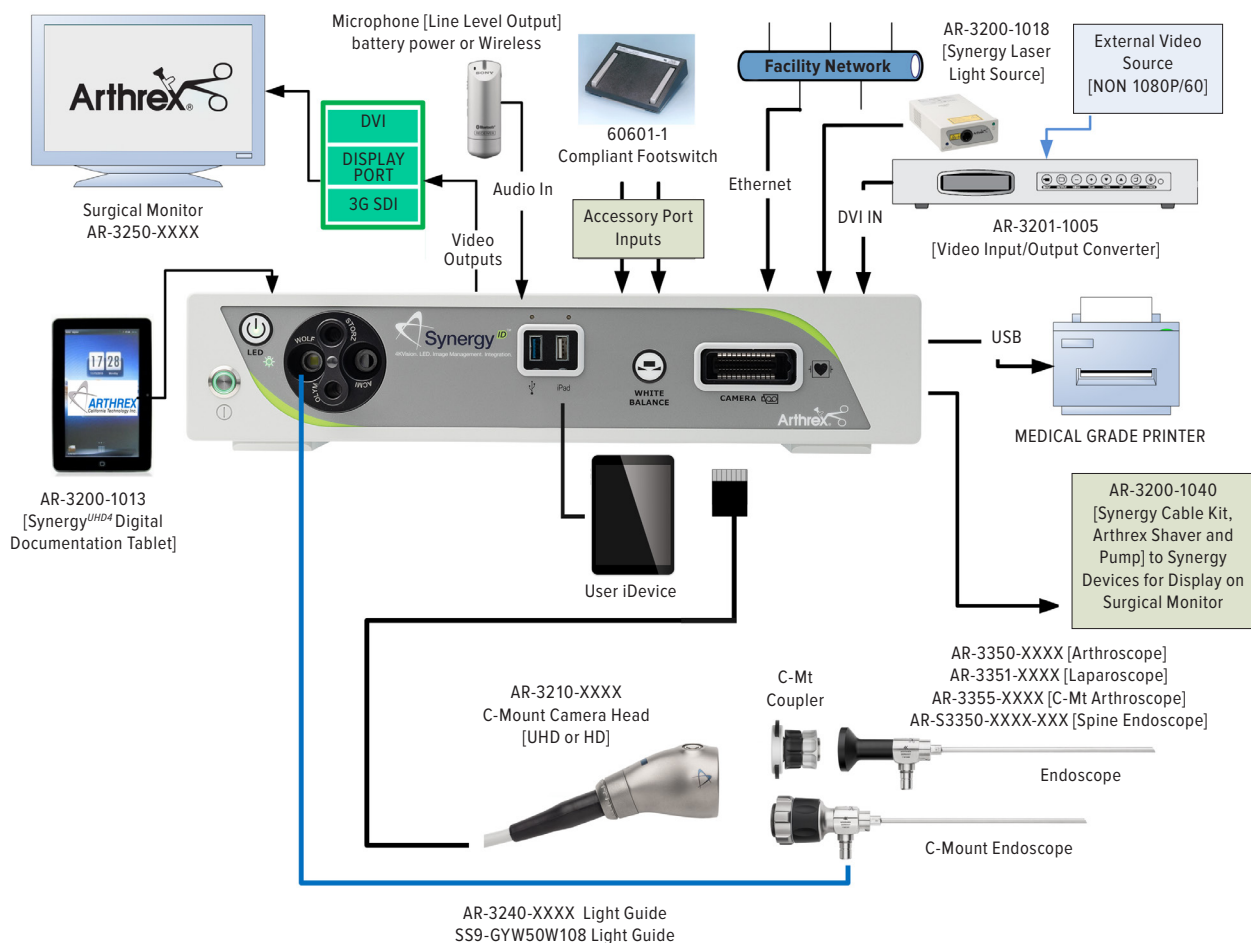

Figure 13 – Synergy^{ID} Typical Interconnect Diagram with OPTIONAL Digital Documentation Tablet [C-mount heads]
1. **Button 1** – A programmable button that can activate various functions of the camera. See Figure 13 – Synergy^{ID} Typical Interconnect Diagram with OPTIONAL Digital Documentation Tablet [C-mount heads] for programming information.
2. **Button 2** – A programmable button that can activate various functions of the camera. See Figure 13 – Synergy^{ID} Typical Interconnect Diagram with OPTIONAL Digital Documentation Tablet [C-mount heads] for programming information.